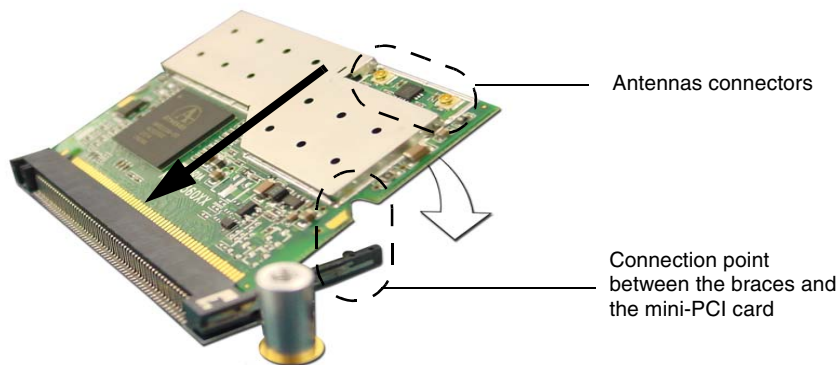

FIG. 19 Installation of the mini-PCI card connector on main board
4. Firmly grasp the NXA-PCI80211G mini-PCI card (from the edges) and insert the pins (at a 25° angle) into the opening on the connector (FIG. 19).
5. While maintaining the 25° angle alignment on the new module, push it in firmly until the contact pins are completely inside the connector and the card "snaps" into place (FIG. 19).
7. Locate the terminal ends of the antennas and apply downward pressure to "snap" them onto their gold-tipped counterparts on the mini-PCI card (FIG. 19). Carefully push down on each connector to verify it is securely joined to the card.